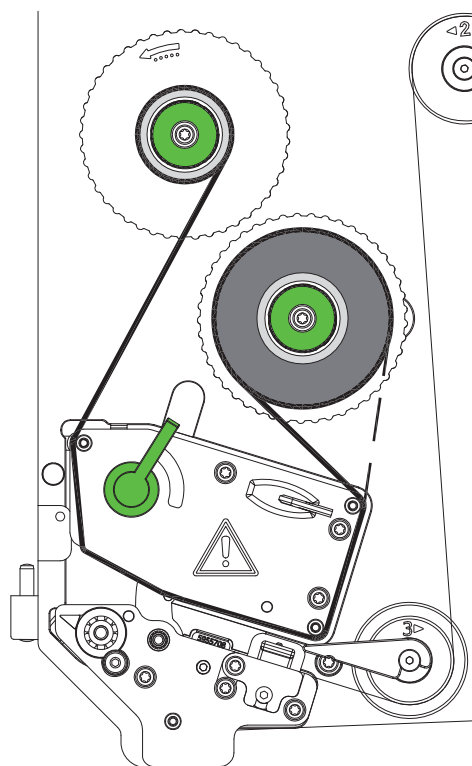

Fig. 16 Transfer ribbon feed path
2. Turn lever (6) counterclockwise to open the printhead.
3. Slide transfer ribbon roll (3) onto the ribbon supply hub (4) until it stops and so that the color coating of the ribbon faces away from the printhead after loading.
4. Hold ribbon supply hub (4) firmly and turn knob (5) counterclockwise until the transfer ribbon roll is secured.
5. Slide suitable ribbon core (1) onto the transfer ribbon take-up hub (2) and secure it in the same way.
6. Guide transfer ribbon through the print unit as shown in the Fig. 16.
7. Secure starting end of transfer ribbon to the transfer ribbon core (1) with adhesive tape. Ensure counterclockwise rotation direction of the transfer ribbon take-up hub here.
8. Turn transfer ribbon take-up hub (2) counterclockwise to smooth out the feed path of the transfer ribbon.
9. Turn lever (6) clockwise to close the printhead.